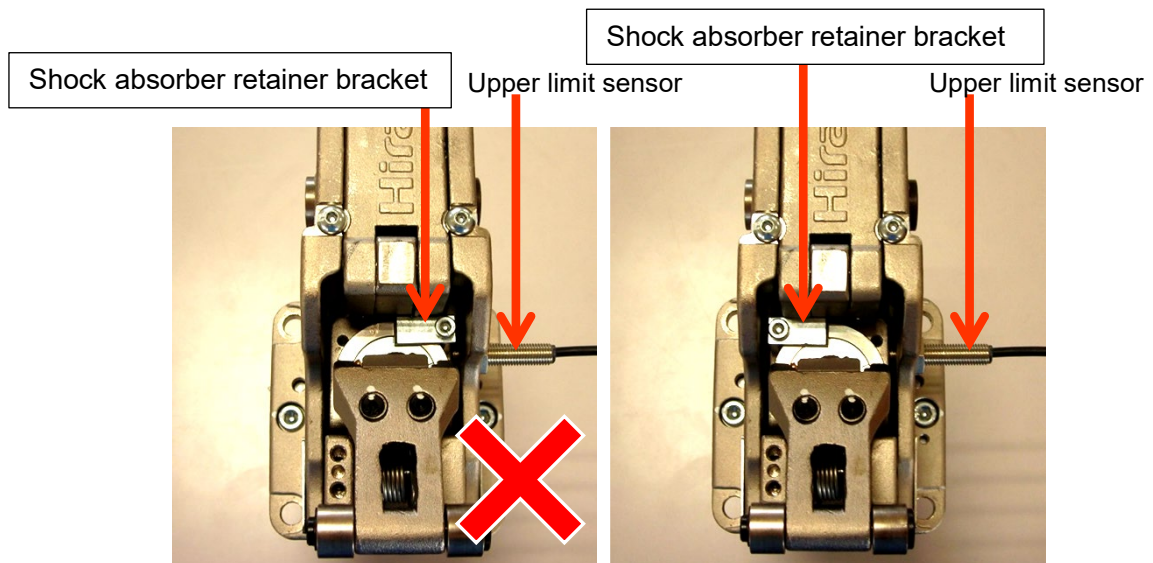

Fig. 2.18 Upper limit sensor installation (EST80 only)
- For EST 80, when changing the position of the upper limit sensor to the other side, change the position of the shock absorber retainer bracket as well. The shock absorber retainer bracket needs to be installed at the opposite side of the upper limit sensor (Fig.2.18).